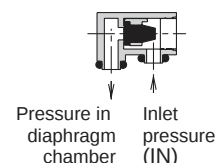

Figure 2
When the inlet pressure (P1) is shut off and released, the check valve ② opens and the pressure in the diaphragm chamber ① is released into the inlet side (Figure 2).